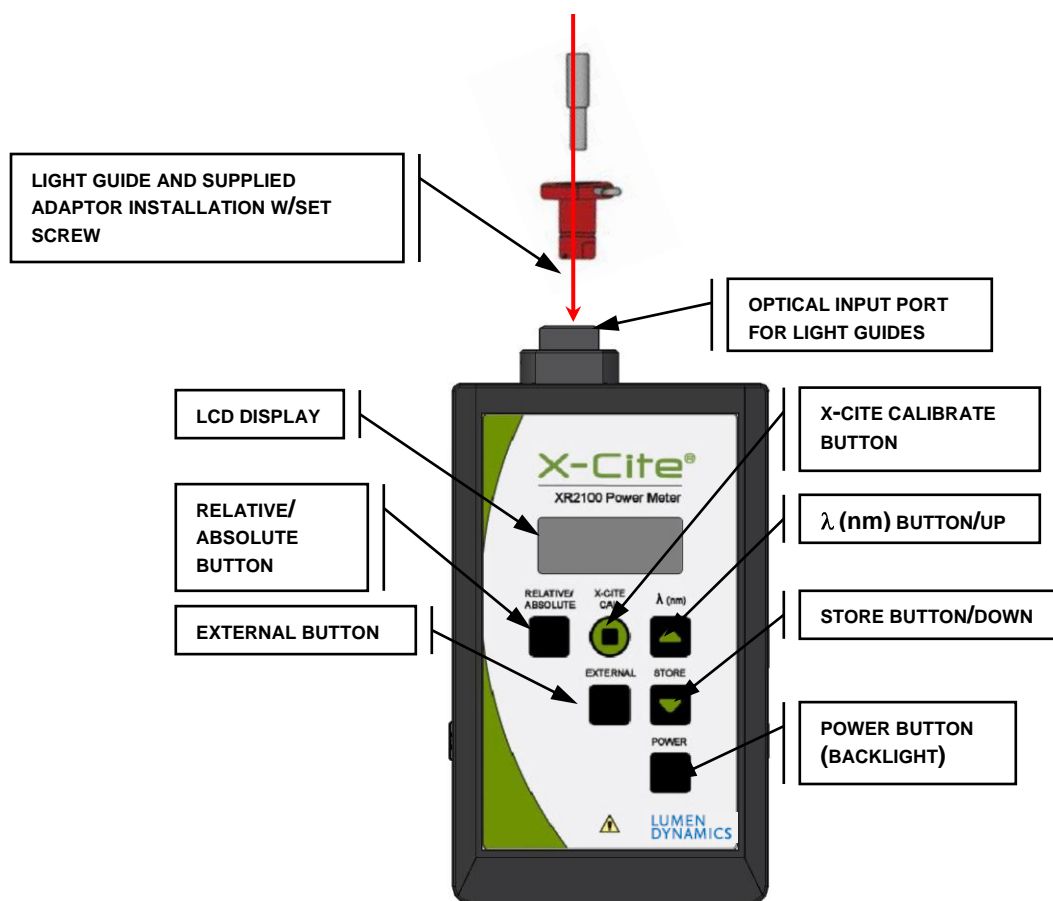

Figure 3: XR2100 Keypad
- 4.1.1 Install the light guide adaptor corresponding to the size of your light guide into the Optical Input Port of the XR2100. Refer to Figure 3 for location.